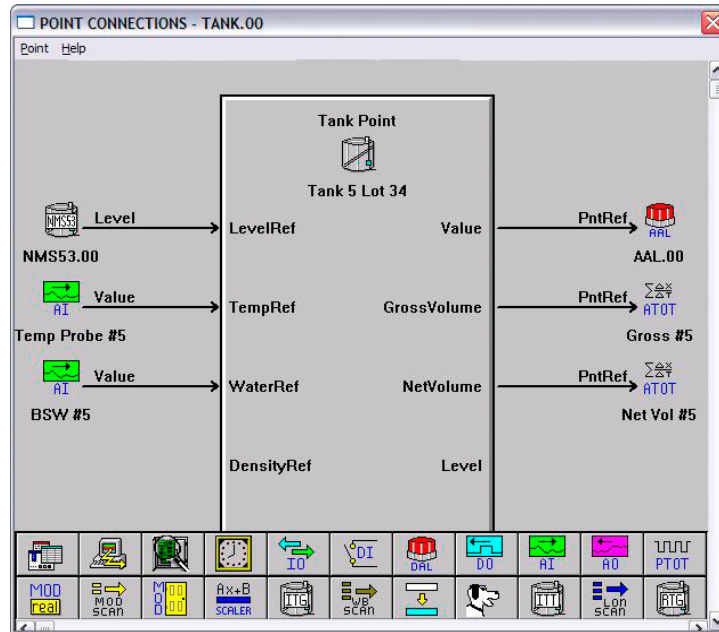

Figure 7-38: Point Connections Window
- The point icon will appear to the right or left of the selected arrow as seen Figure 7-38.